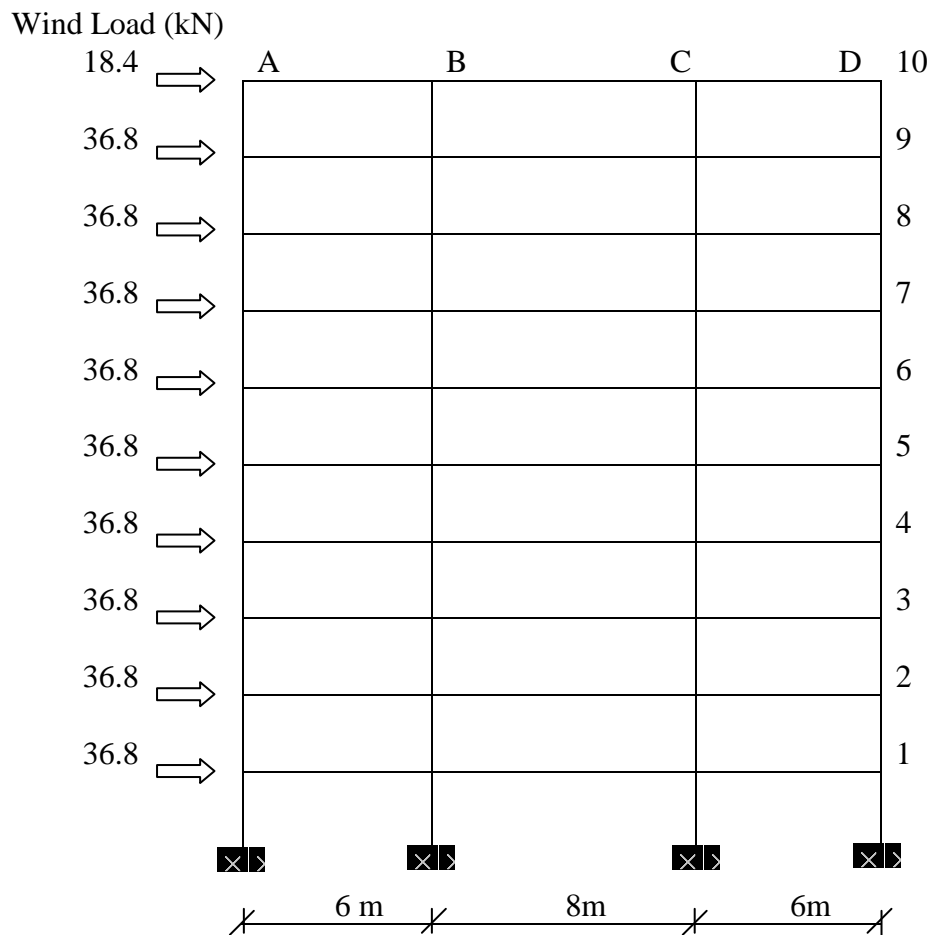

Figure 1.0
- (b) A ten storey rigid frames shown in Figure 1.0 is situated at Penang in the terrain category 3 area with the basic wind speed of 33.5 m/s^2 . The basic wind speed has been converted to equivalent horizontal force as shown in Figure 1.0. The story height is typically 3.5 m, to give a total height of 30m. The frames are spaced at 9m. Using the Portal Method, calculate :